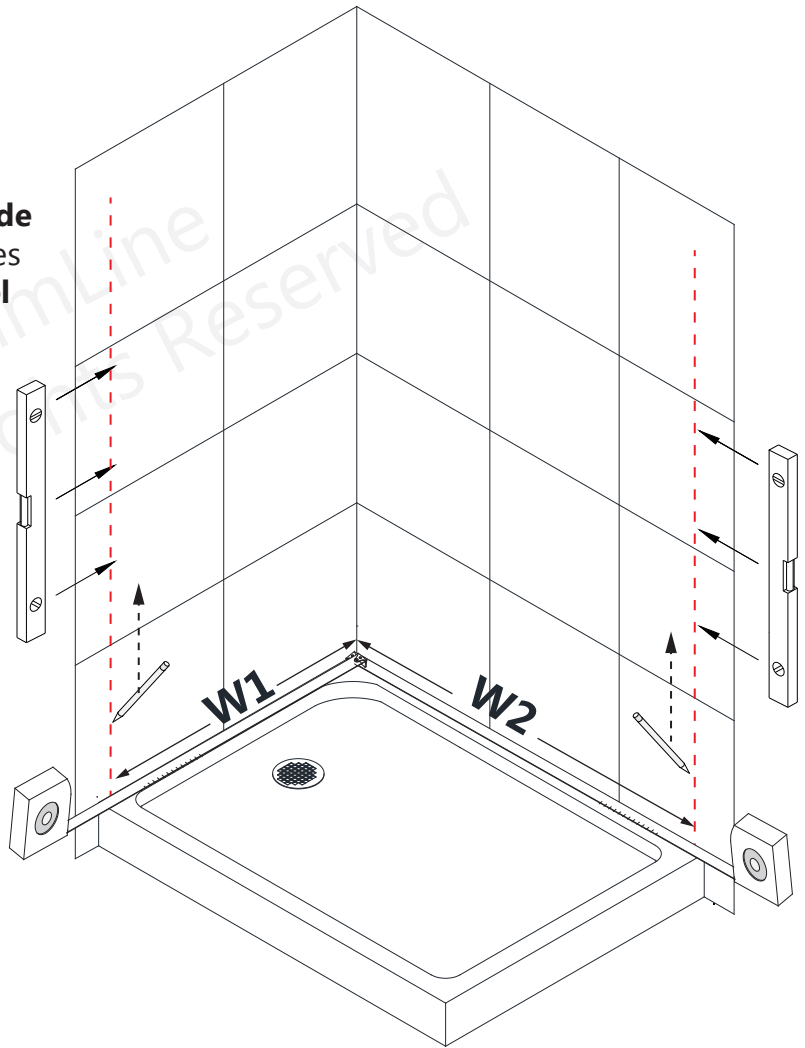

Fig 1
1. Starting at the bottom, measure from the finished back corner of the opening to the dimensions shown in **TABLE A**. Draw a plumb line up the wall according to the **Glass Box Code** for the Shower Enclosure model size. These lines will represent the outside of the **Stainless Steel U-Channels (#11)**. (**TABLE A**) (**Fig 1**)